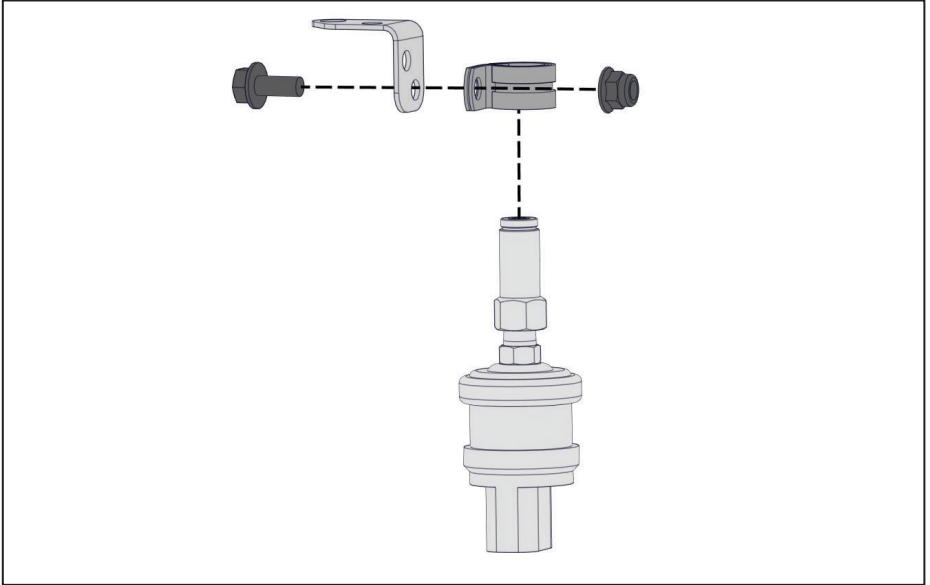

Figure 14 — Mount compressor
- Slide the pressure sensor assembly into the P-clip and mount it to the bracket using the supplied M6 × 1 × 14 mm bolt, and M6 nut (Figure 14).